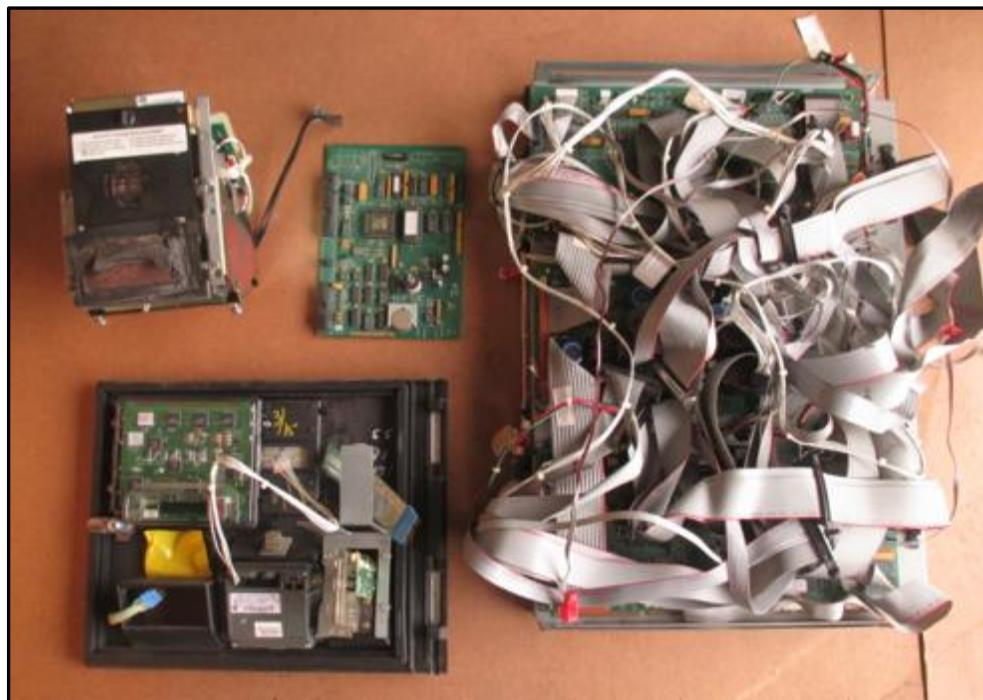

Fig. 1.22 – Removed components from dispenser that can be discarded
20. With the exception of the main door retaining bolts (removed in step 4), the lock (removed in step 8), and the hinge pin (removed in step 11), all of the removed components will not be used again and can be discarded. (Fig. 1.22)